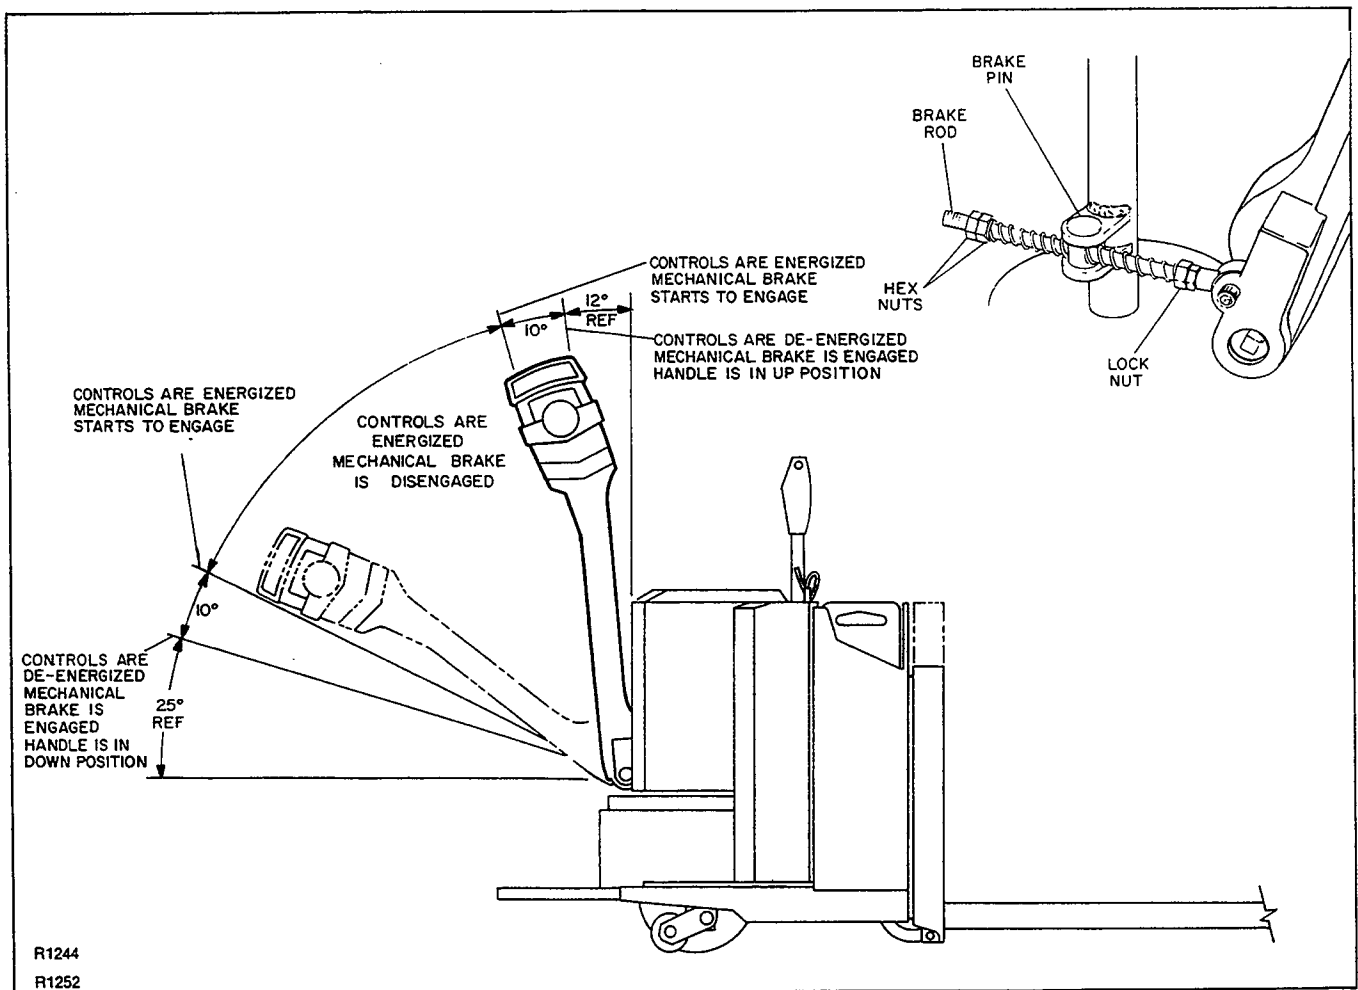

Figure 3-5. Mechanical Brake Adjustment
a. Disc Brake Adjustment. (Figure 3-5)
3. With the steering arm in the vertical position, turn brake disc by hand (3, figure 3-6). If brake disc rotates, tighten locknuts (figure 3-5) until brake disc is secure and will not rotate. Lower handle to operating position (refer to figure 3-5) and brake disc should rotate freely.
4. Lower steering arm to lowest position and repeat procedures in step 3, adjusting locknuts on opposite end of brake rod (refer to figures 3-5 and 3-6).